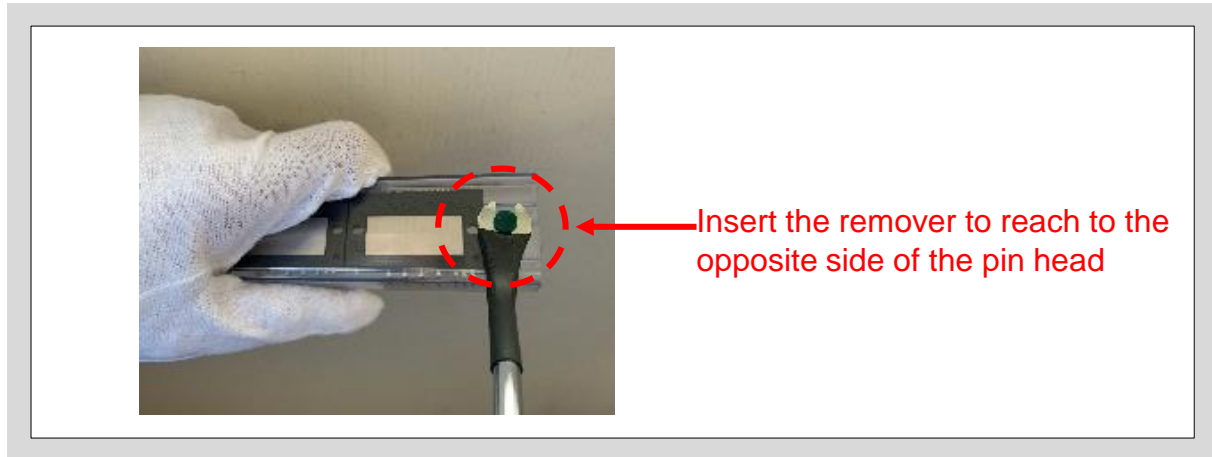

Fig. 2-4 Insert remover
3. Insert the removal part of the remover into the gap between the pin and the tube. (See Fig. 2-4)